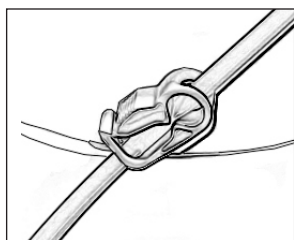

Figure 2
3) Insure Drain Line is clamped. If Clamp is not provided then use another means of performing this function. (Figure 2)